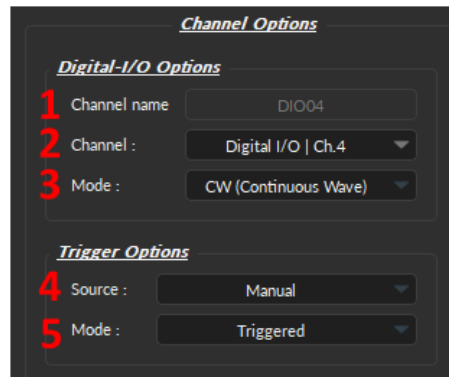

Figure 7.18: Channel(s) configuration window, Digital I/O Channel Options
1. The **Channel name** (Fig 7.18, 1) allows user to specify a label for each channel.
2. The **Channel** (Fig 7.18, 2) identifies the channels available to create a Digital I/O. The channel can be changed by selecting a new one from the drop-down list. Each numbered channel on the physical microscope corresponds to the same number of the digital channel within the software.
3. The **Mode** (Fig 7.18, 3) identifies the type of signal sent (for output channels) or the way the signal is measured (for input channels). Three modes are available:
1. The **Source** trigger option (Fig 7.18, 4) allows the choice of a **Manual Trigger** (activated by a user) or an **Input** trigger, coming from a **Digital I/O** channel set in input mode.
2. The **Mode** (Fig 7.18, 5) defines how the trigger activates a sequence. This includes input sequences, which can be triggered/gated by an outside source.
The parameters contained in the **Sequence Options** depend on the **Channel Mode** (selected in **Channel Options**, Fig. 7.18), as following: